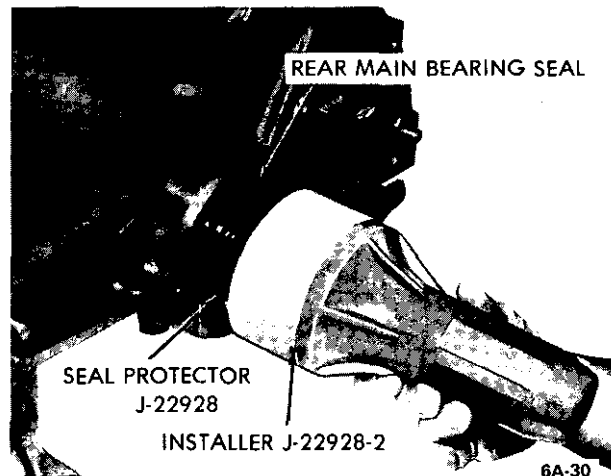

Figure 6A-30 Installing Rear Main Bearing Oil Seal
6. Drive in oil seal using Tool J-22928-2. See Figure 6A-30.